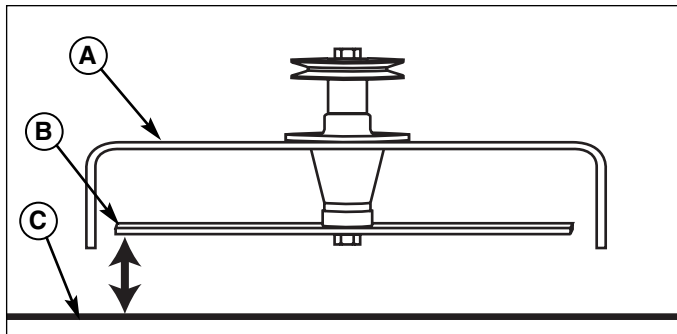

Figure 28. Measure Blade Tips to Ground
7. Measure the distance from the ground to the front tip of the center blade and from the ground to the rear tip of the rear blades (Figures 28 & 30). The front tip of the front blade should be $1/4$ " (6mm) higher than the rear tips of the rear blades. If not, proceed with steps 8 - 9.